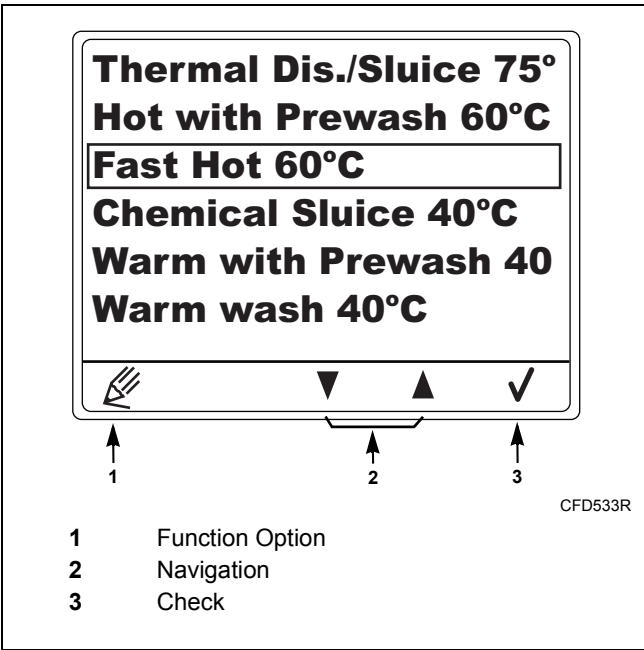

Figure 29
1. Select a program to edit by pressing the keypads below the Navigation icons. Refer to *Figure 29*.
3. Press the keypad below the Check icon to confirm the function. Refer to *Figure 29*.